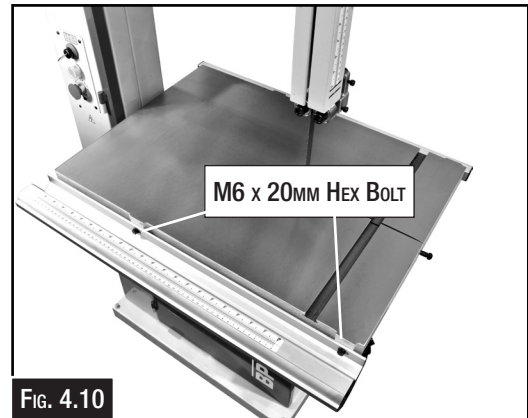

FIG. 4.10
1. Attach the fixed base to the cast iron table with two M6x20 hex head bolts and two M6 spring washers. (Fig. 4.10)